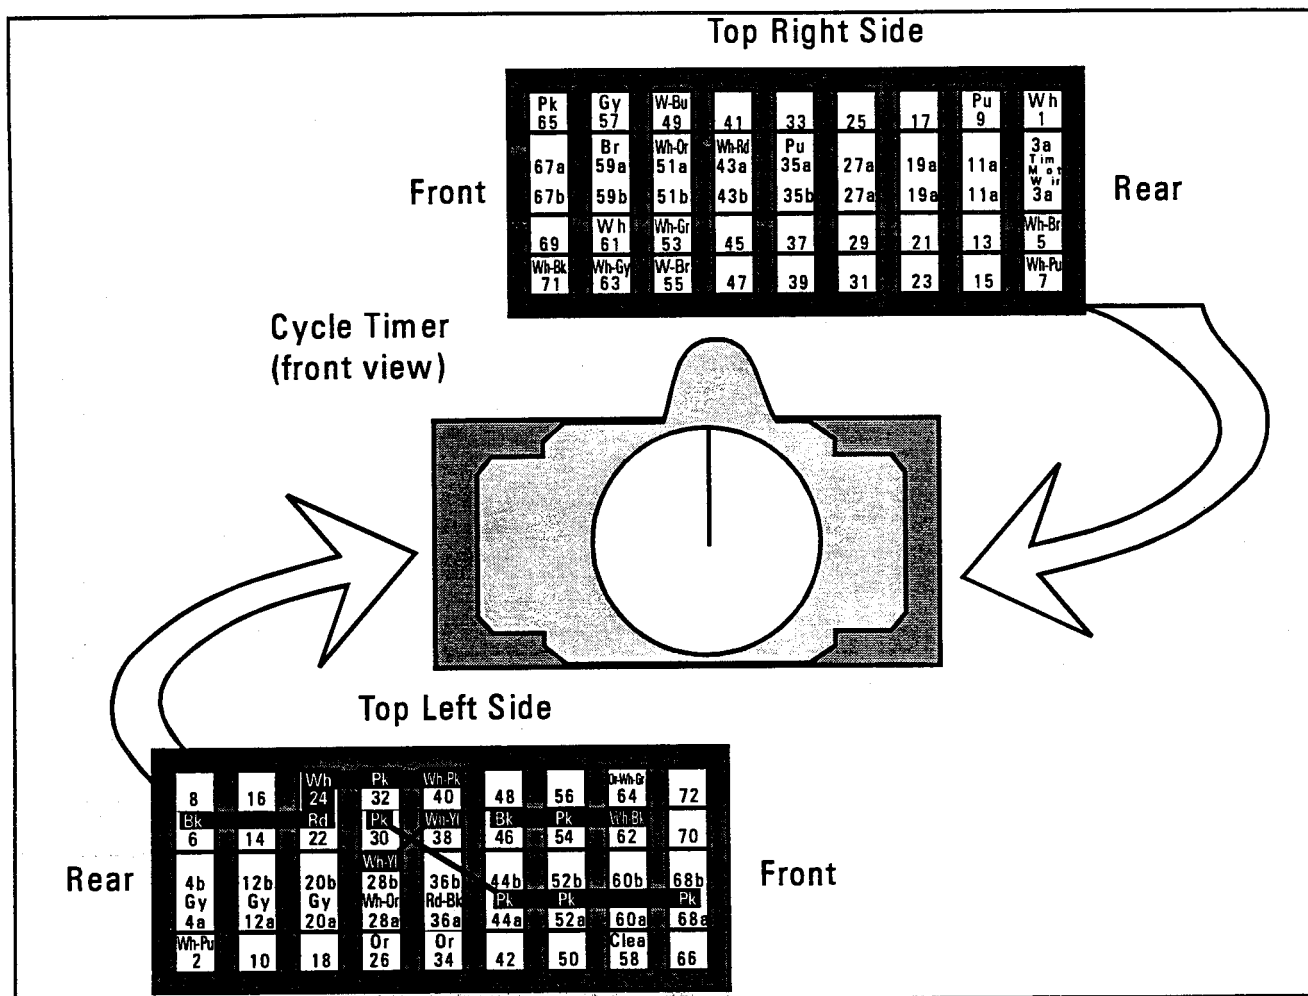

Figure 2-4
In case of a wire number that has one or more jumpers it will not matter which timer terminals the wire and jumpers go to first as they are electrically the same. As an example wire number one (1) is found on terminals 1 and 35 on the right side of the timer and on terminal 10 on the left side of the timer. The preferred routing would be for the main wire 1 to go to terminal number one and the jumpers (also labeled 1) would then go to the other two terminals. (See Figure 2-4 for timer terminal locations)